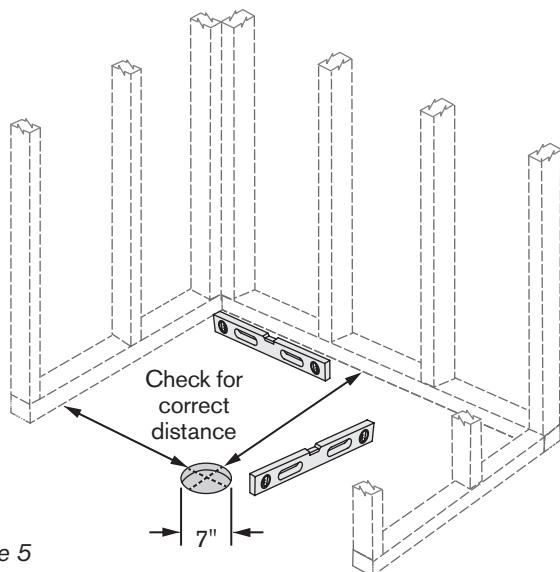

Figure 5
- 1** Check shower pocket area for level and for correct dimensions. Make sure drain hole in floor is the correct distance from studs and 7" diameter (or 7" x 7" square). The floor must be within $\frac{1}{8}$ " of level, especially around drain box-out. (Figure 5)